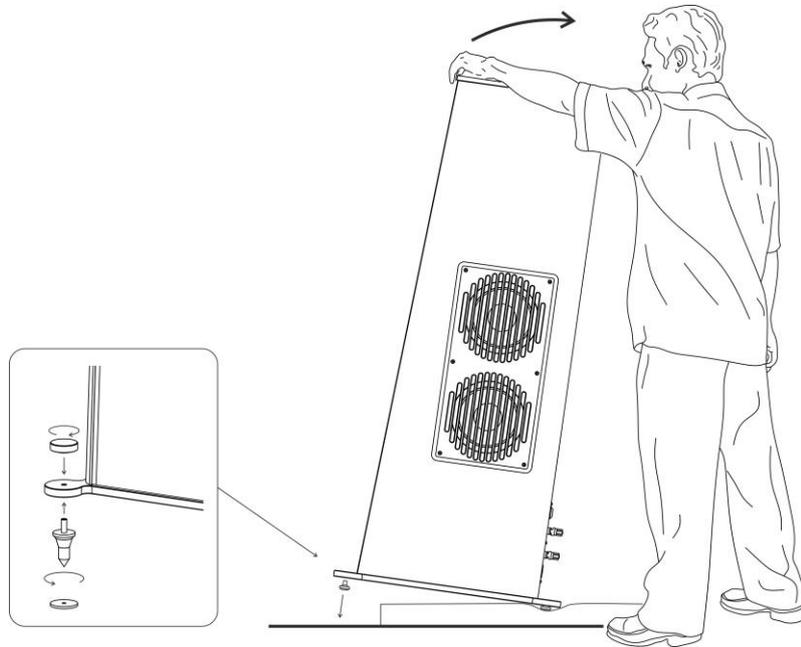

Fig. 5
The loudspeakers are designed symmetrically. This means that there is a left and a right loudspeaker. To get the best possible sound quality the loudspeakers should be positioned with the electrostatic tweeters at the outward facing side of the speakers (see fig. 5).
- Install the front spikes first. One person will slightly tilt the **CWT 1000-40** backwards (Fig. 5), while another person will remove the furniture glides and attach the spikes as described in "Fitting the spikes in detail" (Fig. 7).